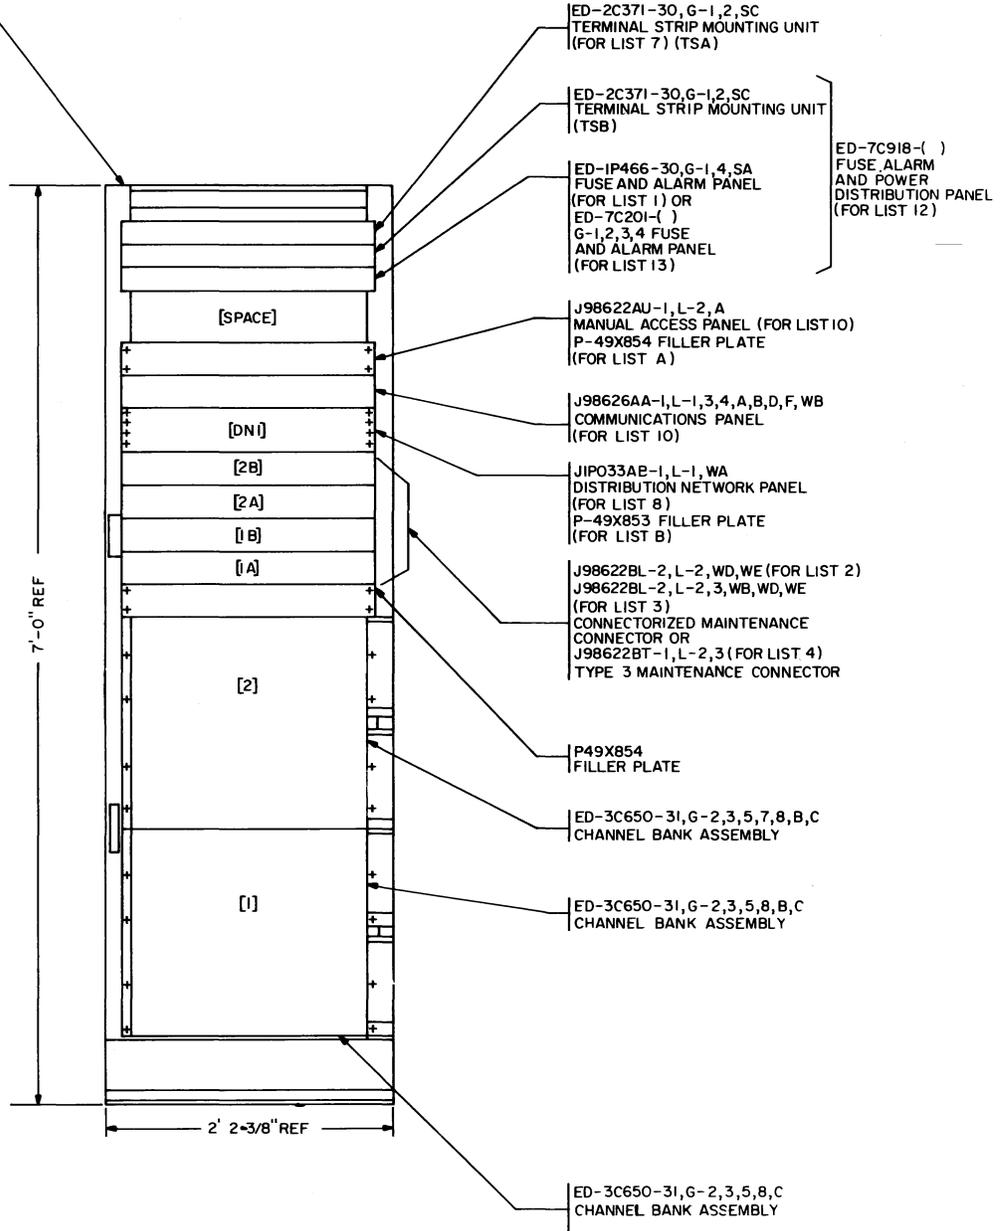

Fig 4— J98733C (Mfr Disc)
**1.05** The J98733C bay (Mfr Disc) shown in Fig 4 is a 7-foot 0-inch unequal flange cable duct-type bay which provides equipment for 96 circuits. Included in this bay are two D4 channel banks ED-3C650-( ), four connectorized maintenance connector panels J98622BL, BK, or BT (Mfr Disc) for SMAS. One fuse and alarm panel ED-7C201-( ) or one fuse, alarm and power distribution panel ED-97918-( ), (when -72V extender range talk battery is required for the channel bank special service units). The bay also has an option for one distribution network J1P033AB for use with SMAS 5; an option for a manual access panel, type 2BX (J98622AU) and its companion communication patch and test panel (J98626AA) to be used when maintenance connectors with MAC jacks J98622BL,L2 and L3 are used. A communication panel (ED-36660) is used when the type 3 (J98622BT) (Mfr Disc) or type 2 (J98622BL,L2) maintenance connectors without MAC jacks are used. A miscellaneous mounted D4 maintenance bank (MB) is available for central-